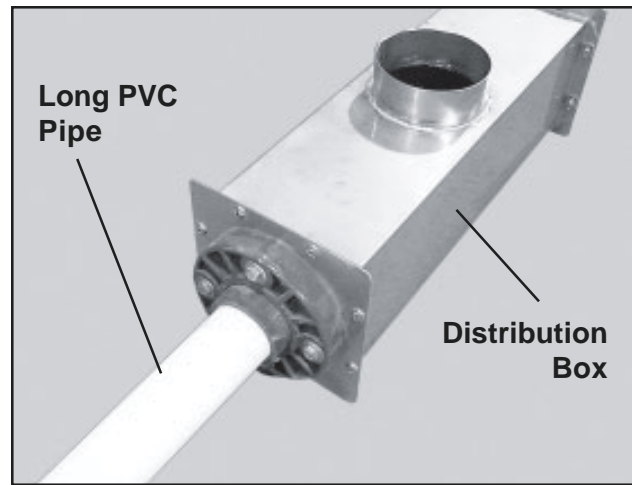

Figure 20. Long PVC Pipe Connected to Distribution Box
5. Referring to the *Note* on the bottom of *Page 17*, bond one of the piping assemblies to one side of the distribution box (Figure 20).